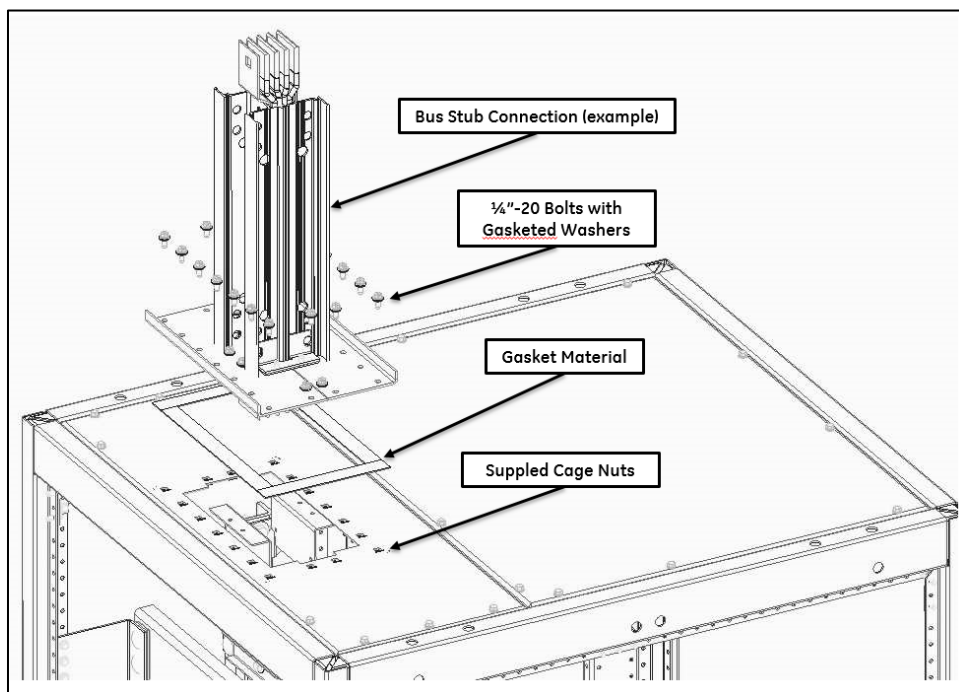

Figure 6. Exploded view of bus stub installation
- Bolt down the Busway flange mounting plate with supplied ¼"-20 bolts with gasketed washers (Fig. 6).